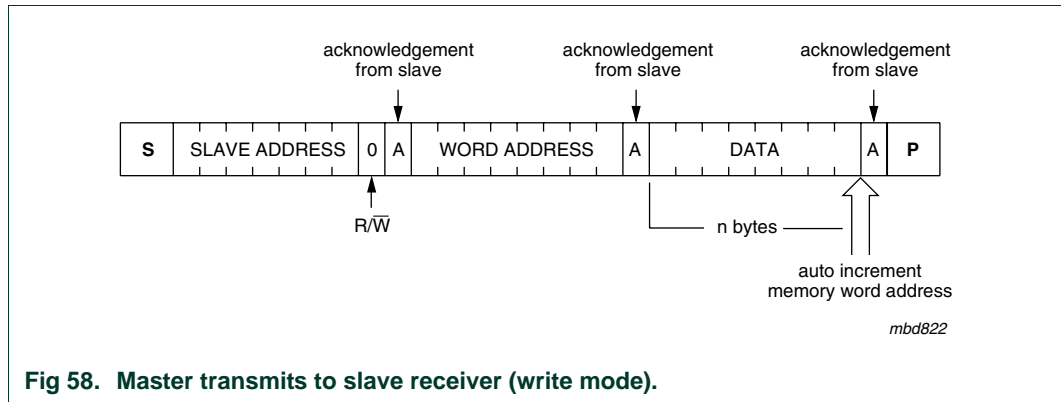
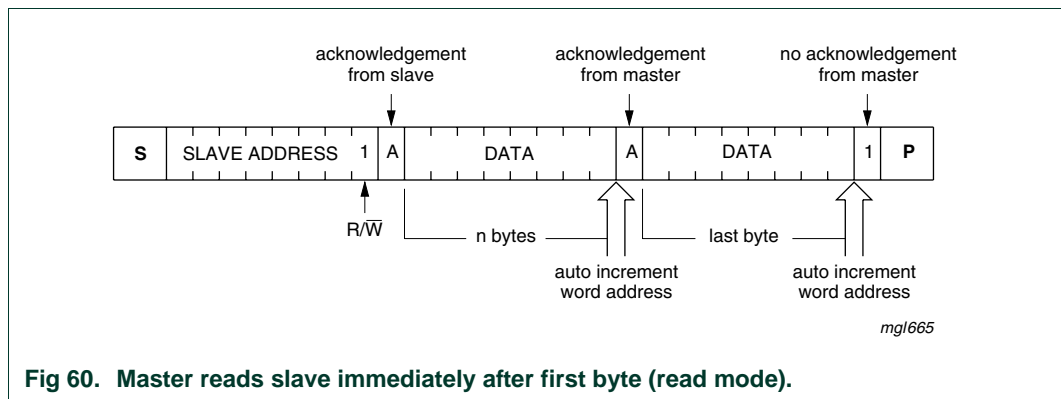

Fig 58. Master transmits to slave receiver (write mode).
Fig 60. Master reads slave immediately after first byte (read mode).
**Read/write cycles:** The I2C-bus configurations for the PCF50633 read and write cycles are illustrated in Figure 58 to Figure 60. The word address is an 8-bit value indicating which register is being accessed.